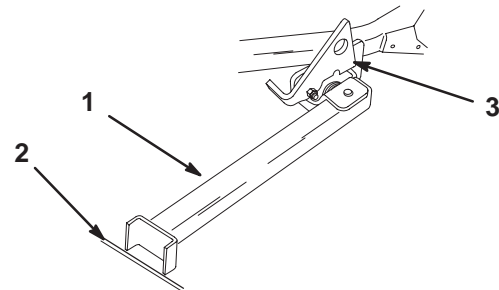

Figure 27
4. Set foot of stand on ground and rest latch on pivot tab (Fig. 27).
**Note:** For best results, place foot of stand into seams in sidewalks or into turf (Fig. 27).